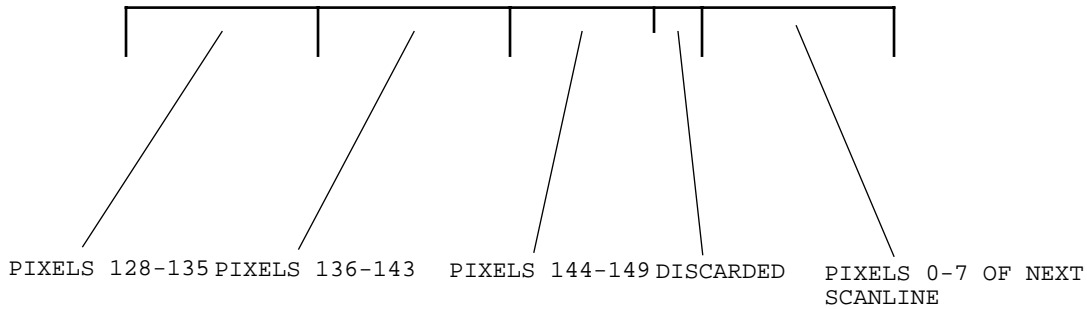

Figure A-4. Color Expand Transfer
- e) The data sent in the fifth double-word transfer is shown in Figure A-4.